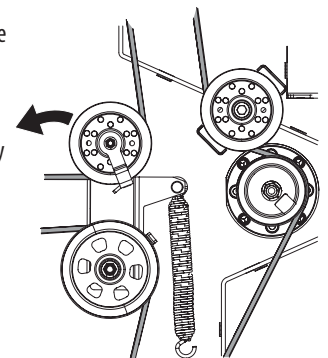

Figure 53
9. Pull the right side of the PTO belt rearward and place the narrow V-side of the PTO belt into the PTO pulley. See Figure 53.